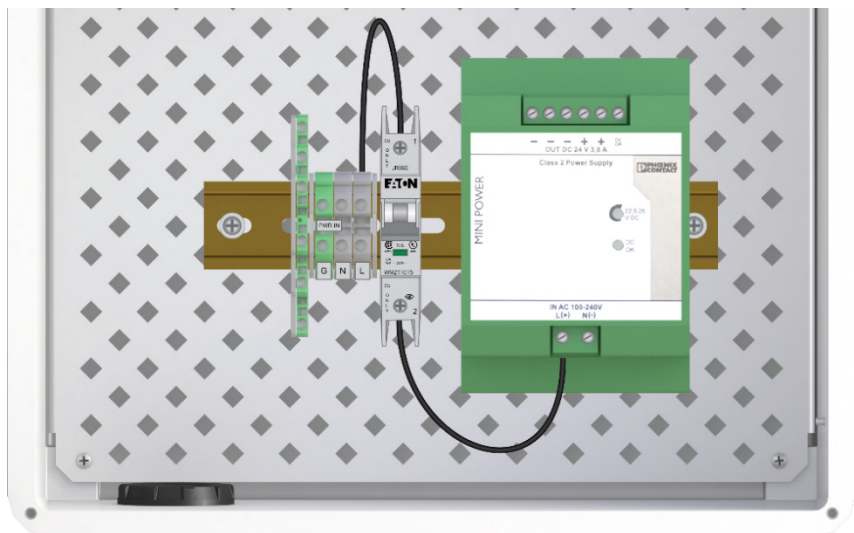

FIGURE 5-4. Connecting the circuit breaker to the L (Line) terminal block
3. Connect a black 14 AWG wire between the top of the breaker and the L (Line) terminal block (FIGURE 5-4).